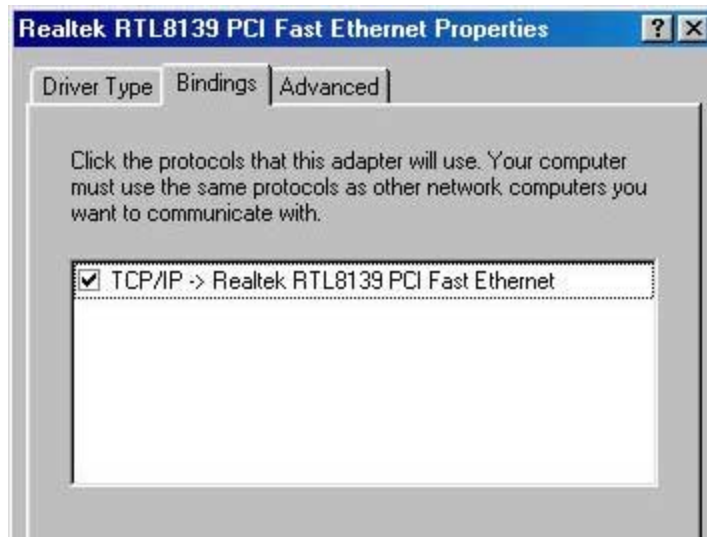

Figure 13.12.5.2
5. Under the Bindings tab, make sure that you have the option checked off which should read TCP/IP as shown in Figure 13.12.5.2.